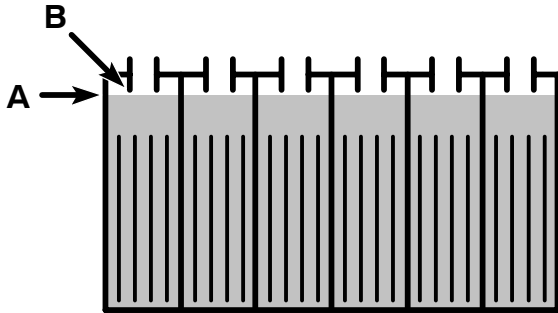

FIG. 57
- Check the specific gravity using a hydrometer to determine the charge level and the condition of the batteries (Figure 57). If one or more of the battery cells read lower than the other battery cells (0.050 or more), the cell is damaged, shorted, or is about to fail. Check the hydrometer readings against the following chart to determine the remaining battery charge level.